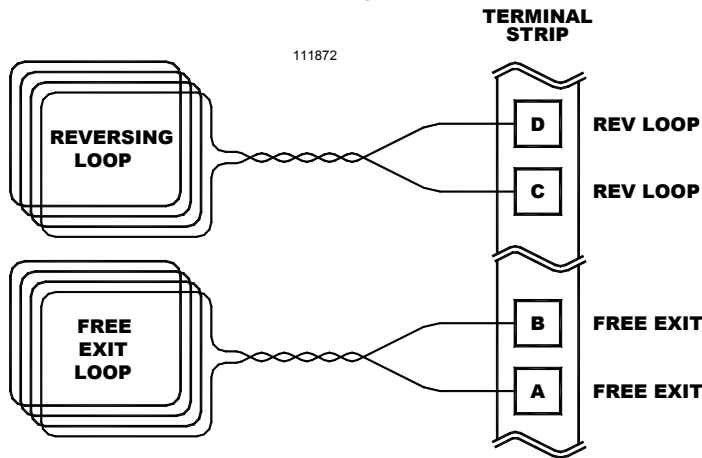

Figure 14: Wiring A Free Exit or Reversing Loop Detector
**REVERSING LOOP VEHICLE DETECTOR:** If a Reversing Loop Vehicle Detector is to be a part of this installation, start with this first. Install a 24 VAC powered, 11 pin (round configuration) vehicle detector module into the detector socket. The vehicle detector module must have a relay contact output. The Reversing Loop socket is pre-installed in the rear of the control panel and is the socket closest to the operator side wall. The actual loop is installed in the concrete or asphalt surface in accordance with the manufacturer's instructions and the information outlined earlier in this manual (see Page 7). Connect the wires from the actual Reversing loop to Terminals C and D, see Figure 14. If employing two (2) Reversing Loops as shown in the diagram on Page 7, and are connecting the loops to the same Loop Detector, wire in series as shown in Figure 14A.
**FREE EXIT VEHICLE DETECTOR:** If also employing a Free Exit Loop Vehicle Detector, install a 24 VAC powered, 11 pin (round configuration) vehicle detector module into the detector socket. The vehicle detector module must have a relay contact output. The Free Exit Loop socket is pre-installed in the rear of the control panel and is the socket towards the middle. The actual loop is installed in the concrete or asphalt surface in accordance with the manufacturer's instructions and the information outlined earlier in this manual (see Page 7). Connect the wires from the actual Free Exit loop to Terminals A and B, see Figure 14.